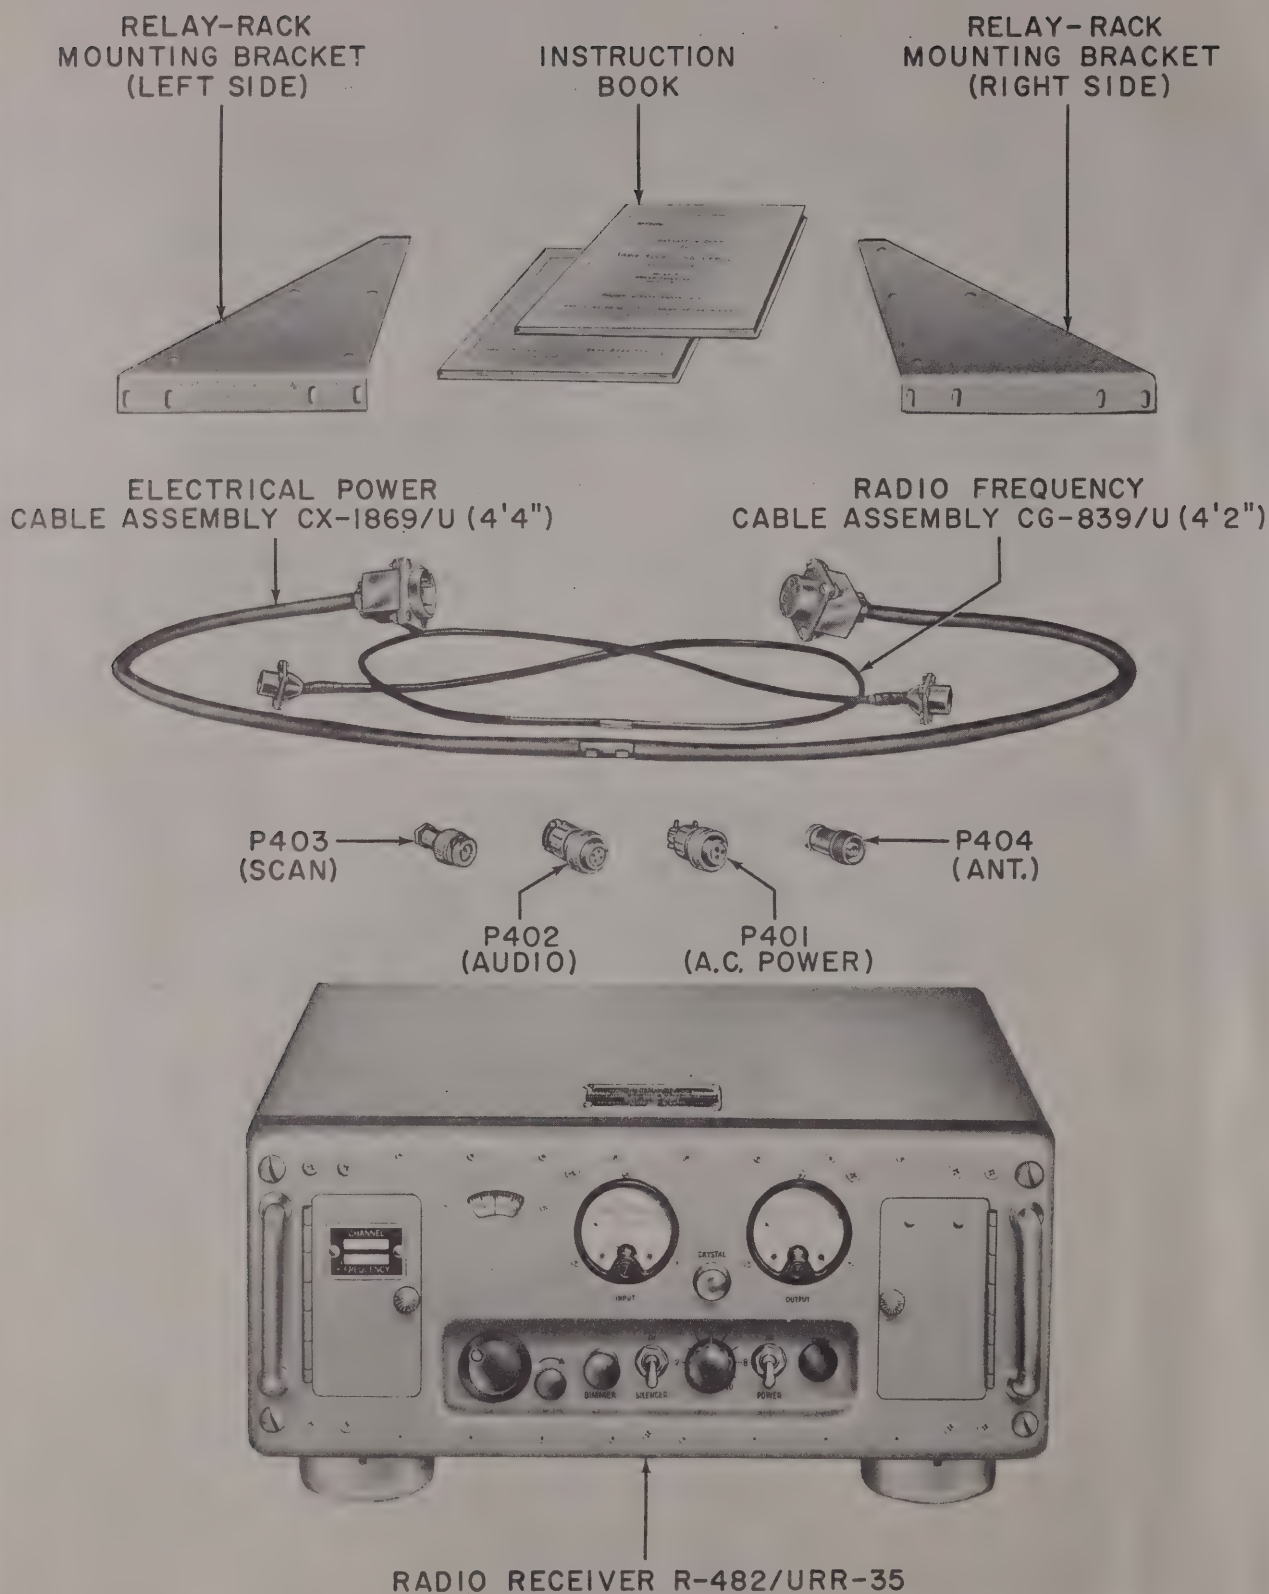

Figure 1-1. Radio Receiving Set AN/URR-35
c. EQUIPMENT ARRANGEMENT.—Radio Receiving Set AN/URR-35 is shown in figure 1-1. It consists of Radio Receiver R-482/URR-35, a pair of auxiliary angle brackets for relay-rack mounting, four plugs to mate with receptacles on the receiver for external connections, Electrical Power Cable Assembly CX-1869/U, Radio Frequency Cable Assembly CG-839/U, and two copies of the instruction book. The receiver proper consists of a panel, frame and chassis assembly housed in a cabinet fitted with shockmounts.
Connector plugs P401 through P404 (see figure 1-1) are supplied with the equipment for use as required. Through connectors P401 and J401, a-c power is sup-
b. TEST CABLE ASSEMBLIES.—Two test cable assemblies, shown in figure 1-1, are supplied with the equipment for use during maintenance procedures. When the receiver is removed from the cabinet during such procedures, these cable assemblies are used to connect the connector plugs on the rear of the receiver to the receptacles on the base plate of the low-pass filter; refer to preceding subparagraph *g*. Radio Frequency Cable Assembly CG-839/U (W601) connects the antenna input connector on the rear of the receiver chassis to the antenna input circuit of the filter assembly. Electrical Power Cable Assembly CX-1869/U (W602) connects the receiver power and audio circuits to the filter assembly.